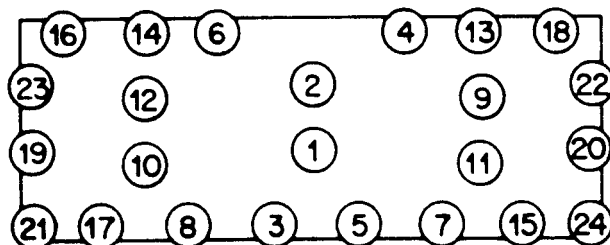

FIGURE 1 - CYLINDER HEAD FASTENER TORQUE SEQUENCE
Refer to Figure 1 for torque sequence and torque specs. A re-torque is necessary after engine warm-up and complete cool-down. A re-torque after each of three (3) hot-cold cycles is recommended for normally aspirated engines, and a re-torque after each of five (5) hot-cold cycles is recommended for forced induction (blown) applications.